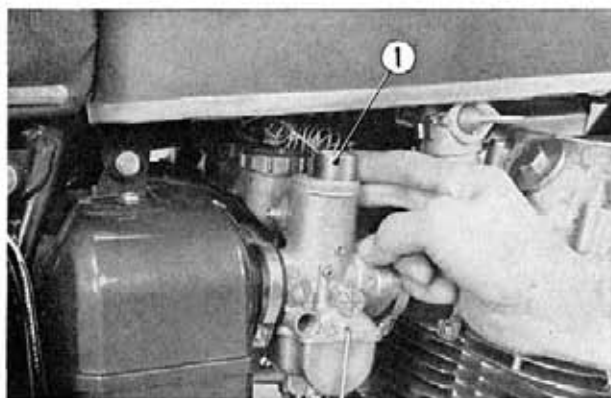

Fig. 6-2 ① Throttle valve
2. Remove the throttle valve from each of the carburetors. (Fig. 6-2)